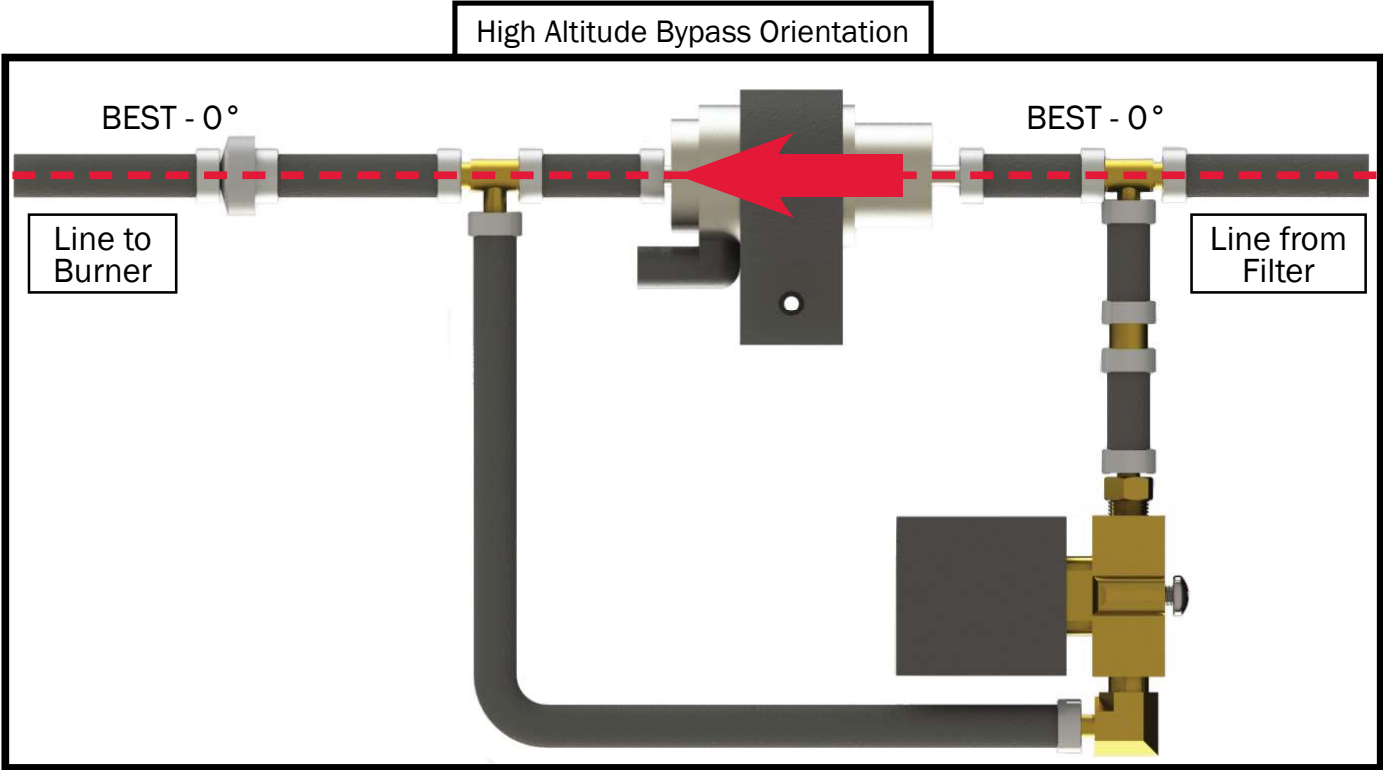

Figure 65
- The fuel line should not be descending from the fuel pump to the burner - see Figure 65.
- Locate the high-limit thermostats (3) within the Aqua-Hot. Test these thermostats for functionality, and replace them if necessary. Reference page 20.
- Make sure there are no faults displayed on the LCD screen. Reference Figure 65.